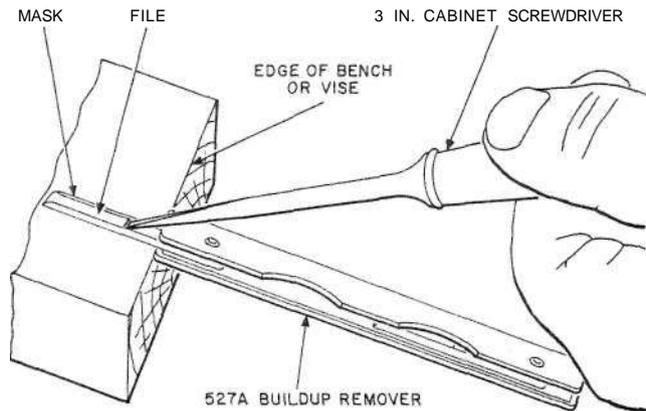

Fig. 1—Method of Removing File from Mask
3.03 Clean the file portion of the 527A build-up remover before each usage. To remove the file from the mask, place the blade face down on the edge of a bench or vise with the handle extending over the edge, place the blade of the 3-inch C screwdriver in back of the file as indicated in Fig. 1, and tap the handle of the screwdriver lightly, using the palm of the hand, until the file is free of the mask.